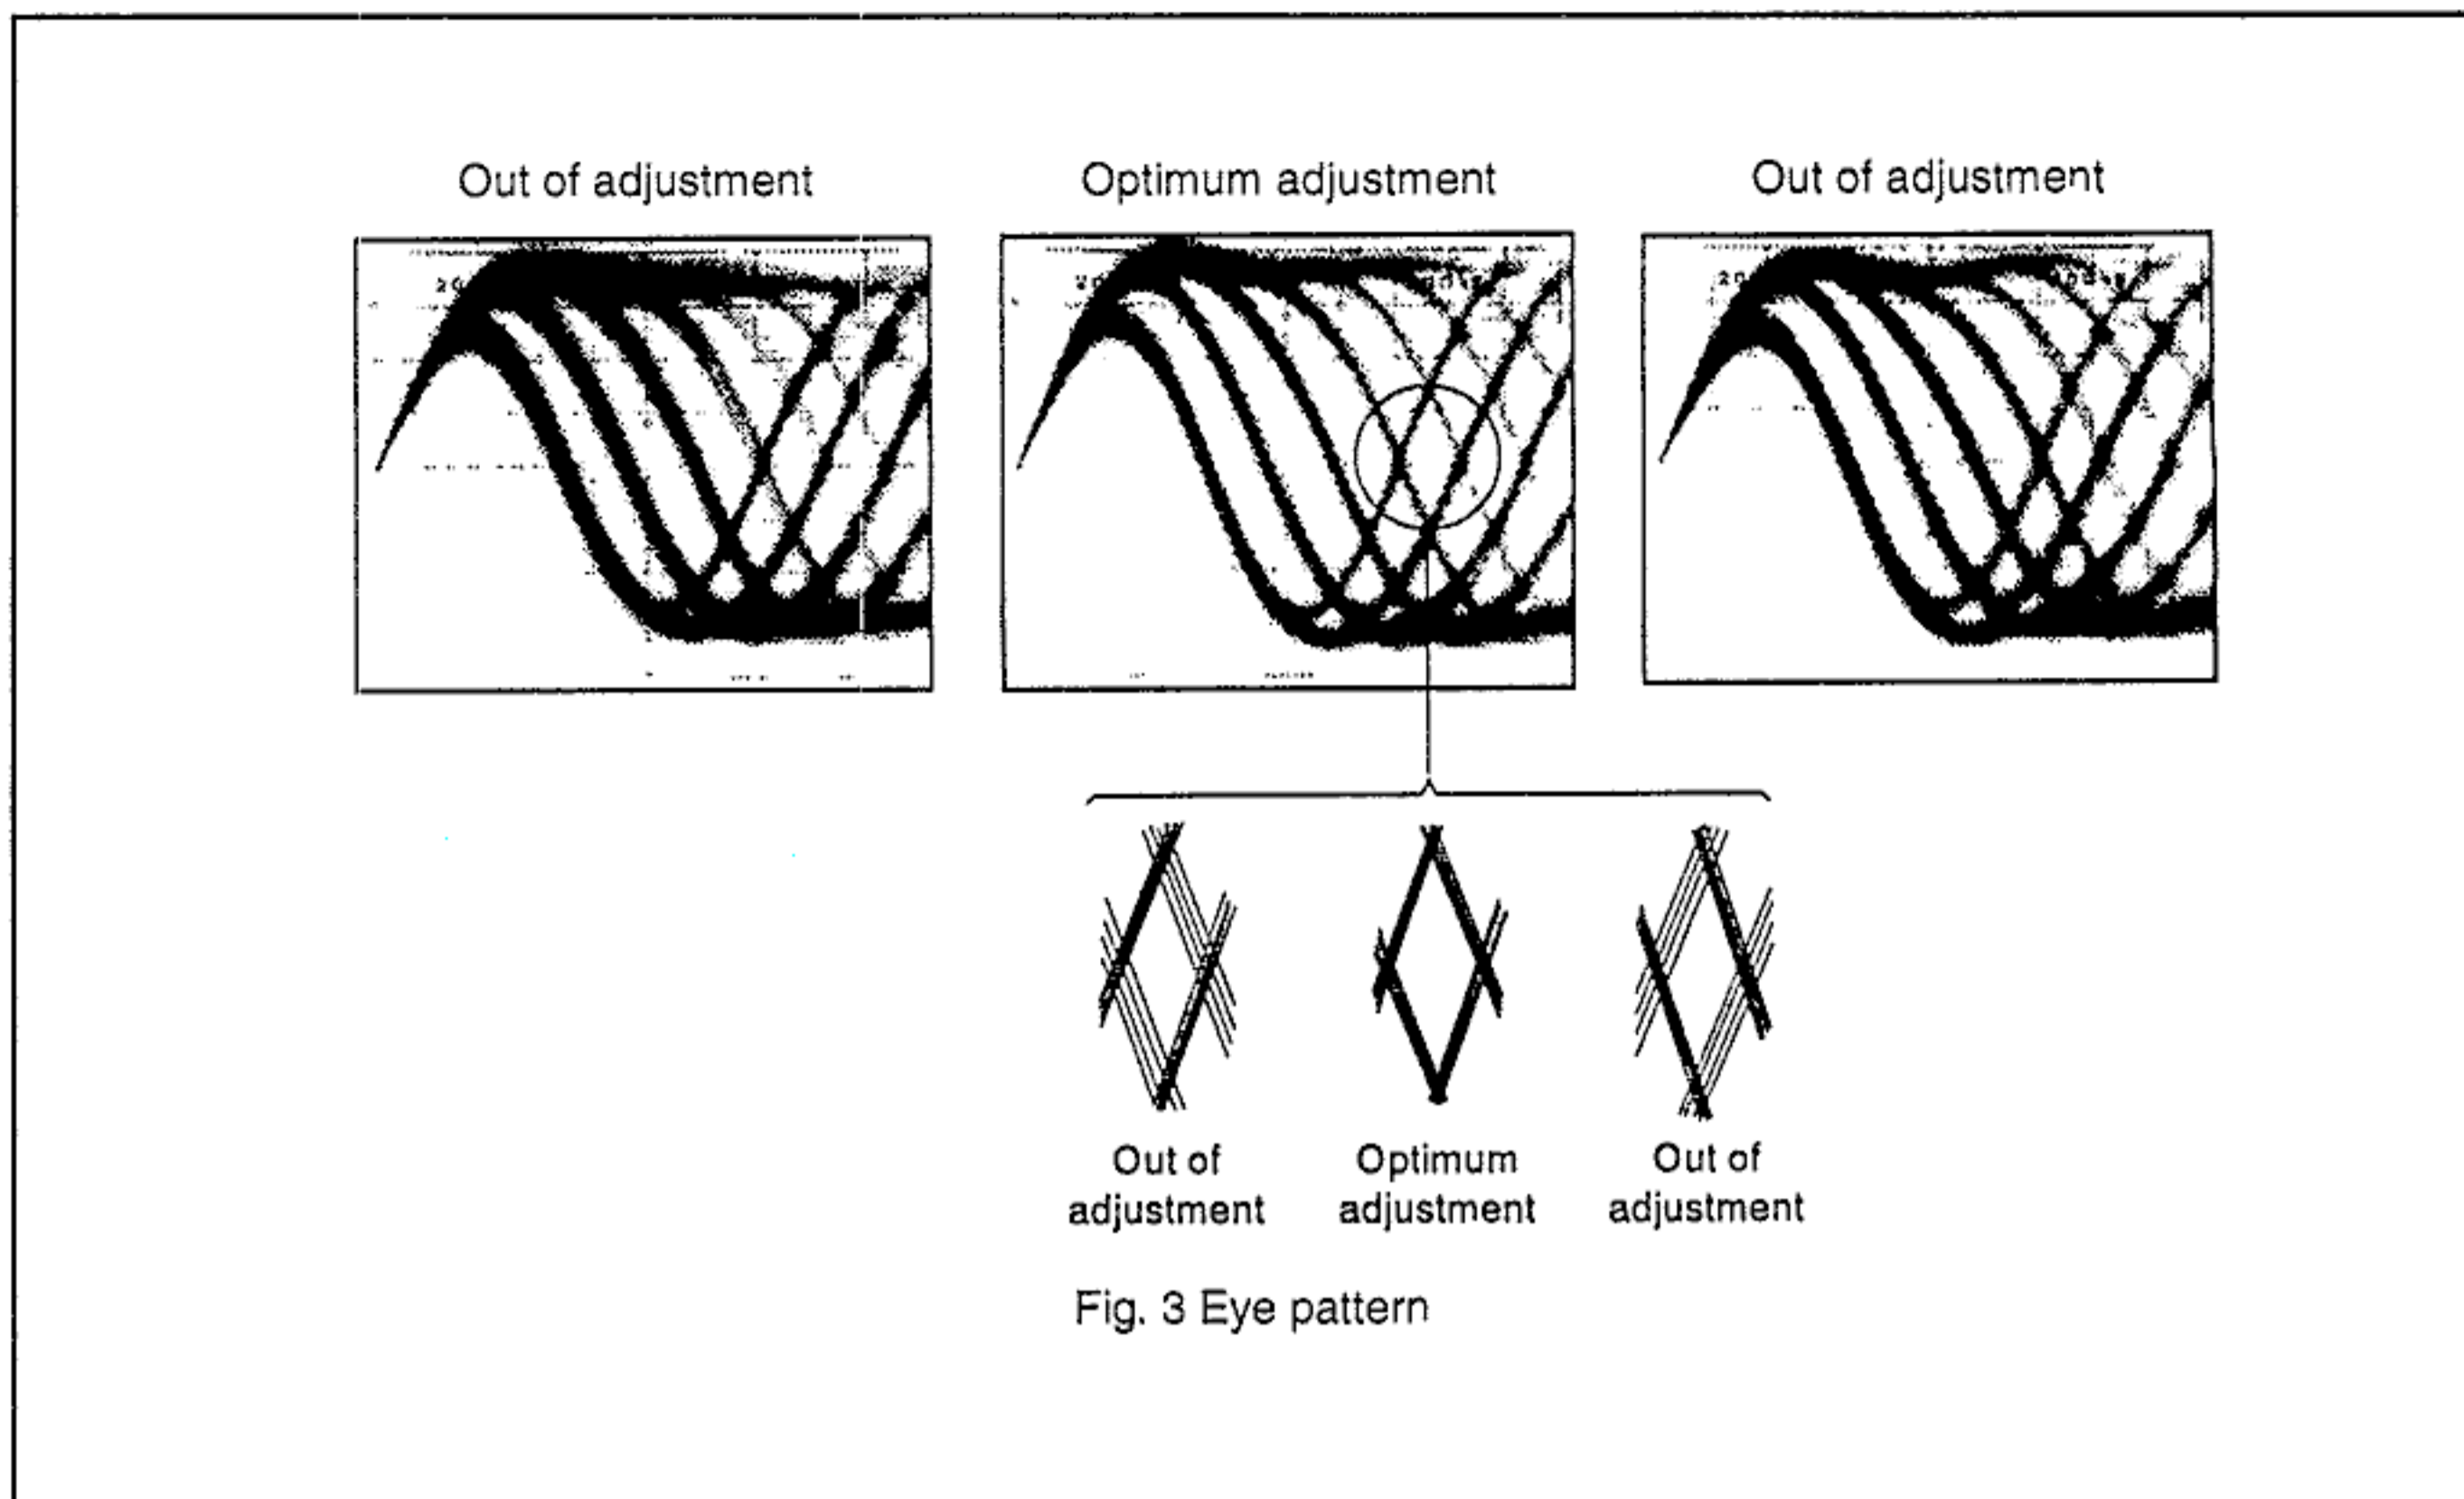

Fig. 3 Eye pattern
3. Next, adjust the tangential tilt adjustment screw with the hexagon wrench (GGK1002) so that the eye pattern (the diamond shape at the center of the RF signal) can be seen the most clearly (Fig. 3).